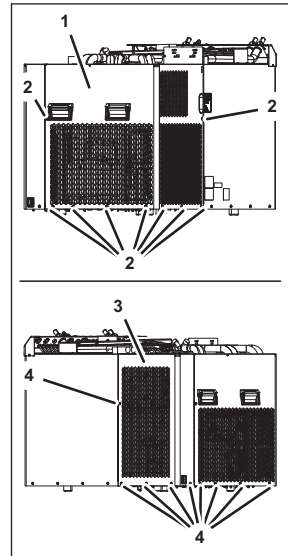

Figure 35
1. Remove the fastening bolts (Figure 35/2) from the sheet casing (Figure 35/1).
2. Lift off the sheet casing (Figure 35/1).
3. Remove the fastening bolts (Figure 35/4) from the sheet casing (Figure 35/3).
4. Lift off the sheet casing (Figure 35/3).
5. Position the new sheet casing (Figure 35/3) on the unit.
6. Attach the sheet casing (Figure 35/3) using the fastening bolts (Figure 35/4).
7. Position the new sheet casing (Figure 35/31) on the unit.
8. Attach the sheet casing (Figure 35/1) using the fastening bolts (Figure 35/2).